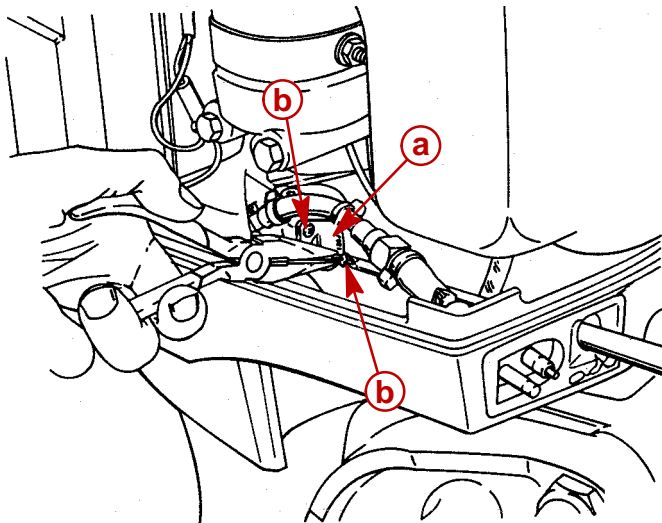

Figure 3.
- Secure new cam plate (marked "128J") onto oil pump, using retained screws. (Figure 3) Tighten screws to a torque of 5 lb. in. (0.6 Nm).